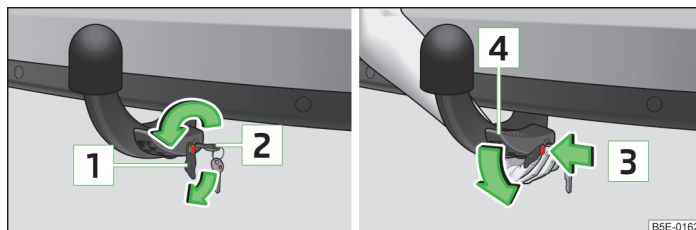

Fig. 150 Unlock the operating lever of the ball rod/removing the ball rod
- Remove the cap [1] » Fig. 150 from the lock on the ball rod in the direction of the arrow.
- Unlock the lock on the operating lever by turning the key 180° to the left so that the red marking [2] becomes visible.